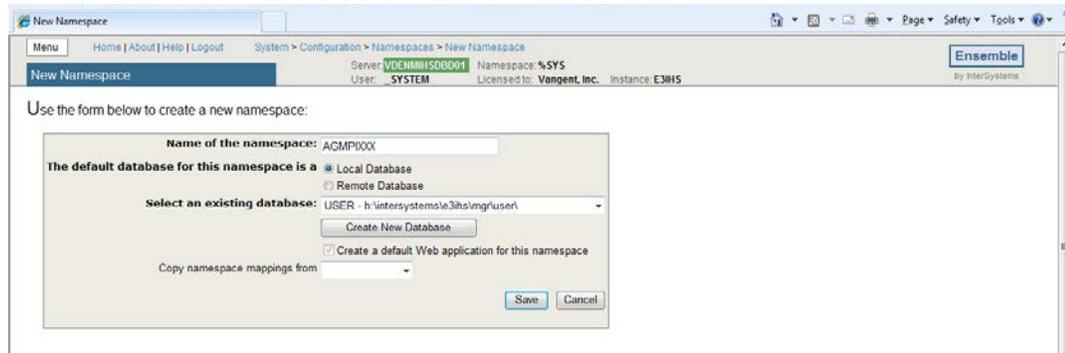

Figure 4-5: New Namespace page
- Click **Create New Namespace** to open the **New Namespace** page, as shown in Figure 4-5.